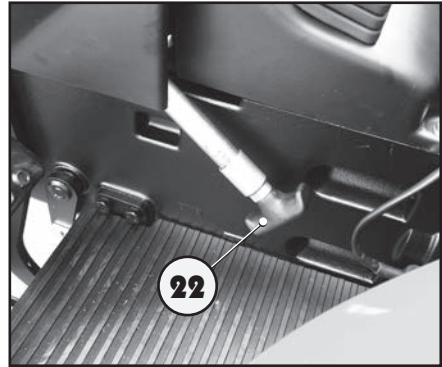

Fig. 5.19
The PTO is normally engaged at all times: with PTO engage/disengage lever (22) in bottom position (Fig. 5.19).